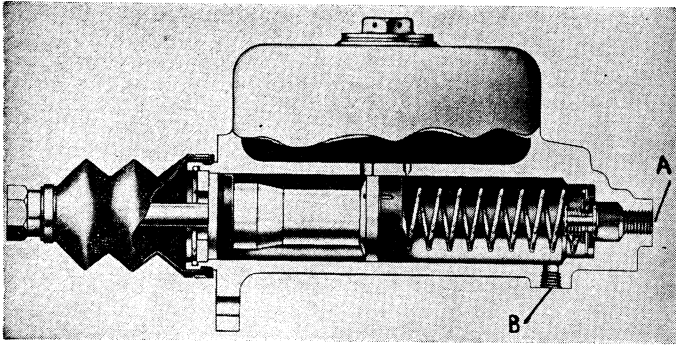
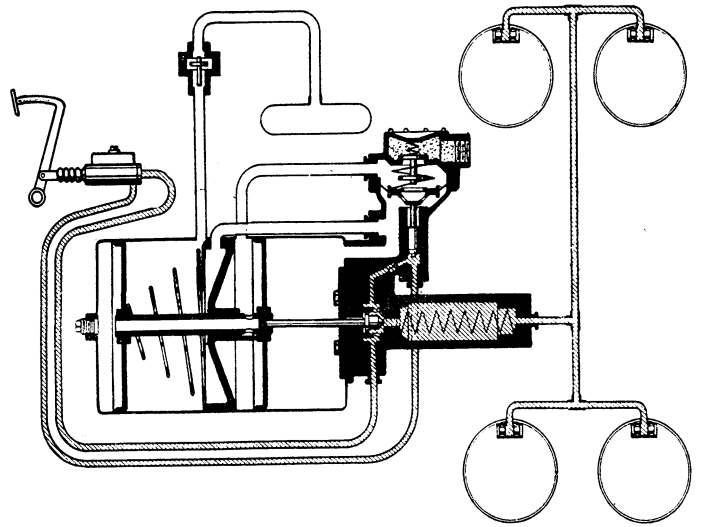

Fig. 29 Sectional view of typical brake master cylinder
Fig. 30 Diagrammatic section through Second Series Hydrovac with double hydraulic line system in released position
Where a low initial pedal pressure is required, a Hydrovac unit (second series) which has two hydraulic lines connected to the vehicle master cylinder, Fig. 30, can be used. One line is connected be-
tween the master cylinder check valve outlet "A", Fig. 29, and the slave cylinder port of the Hydrovac. This line supplies fluid through the slave cylinder to the wheel cylinders.
Another line is connected between an outlet in the vehicle master cylinder, located behind its check valve at (B), Fig. 29, and a port in the control valve behind the valve piston. The sole purpose of the second line is to operate the control valve, and in doing so, the residual line pressure in the hydraulic brake system is eliminated from the control valve, thus requiring much less initial pedal pressure to operate the control valve, yet the original residual line pressure in the system through the other line is maintained.
In the released position, this second line at (B) is open to atmosphere through the master cylinder vent. In the first hydraulic line referred to above, there is a ball check valve located in the passage between the slave cylinder piston and the control valve, Fig. 30. The purpose of this check valve is to permit hydraulic fluid to pass from the control valve into the chamber behind the slave cylinder piston whenever the pressure within the former is greater than the pressure within the latter. If this by-pass were not provided, a vibration or pedal chatter might be set up under certain conditions. This is because within time required for the control valve to move from applied to released position the fluid might be forced out of the control valve and into the master cylinder through port (B), Fig. 29.